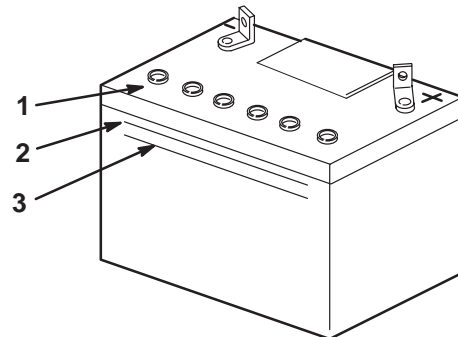

Figure 66
2. Look at the side of the battery. The electrolyte must be up to the **upper** line (Fig. 66). Do not allow the electrolyte to get below the **lower** line (Fig. 66).
3. Remove the vent caps from the battery (Fig. 66).
4. Slowly pour distilled water into each battery cell until the level is up to the **upper** line (Fig. 66) on the battery case.
5. Wait five to ten minutes after filling the battery cells. Add distilled water, if necessary, until the electrolyte level is up to the **upper** line (Fig. 66) on the battery case.